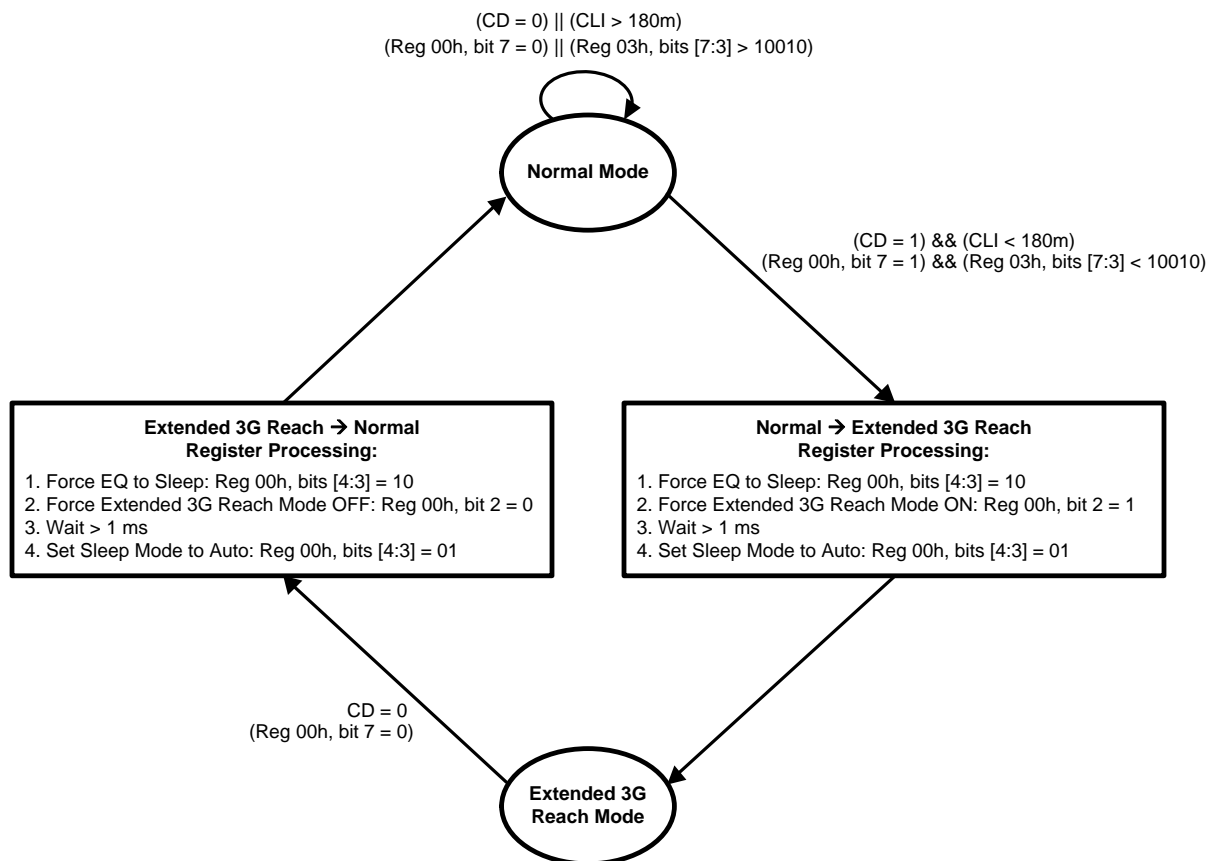

Figure 10. Extended 3G Reach Mode State Machine Example
The extended 3G reach mode is accessible through bit 2 of SPI register 00h. In order to achieve longer 3G cable reach while still maintaining the performance at HD and SD data rates, a state machine can be implemented as shown in Figure 10. (Note: If this procedure is not followed, the maximum equalizable cable lengths for HD and SD data rates will be limited to less than what can be achieved in normal mode).
7.5.7 Explanation of Extended 3G Reach Mode State Machine (Figure 10)